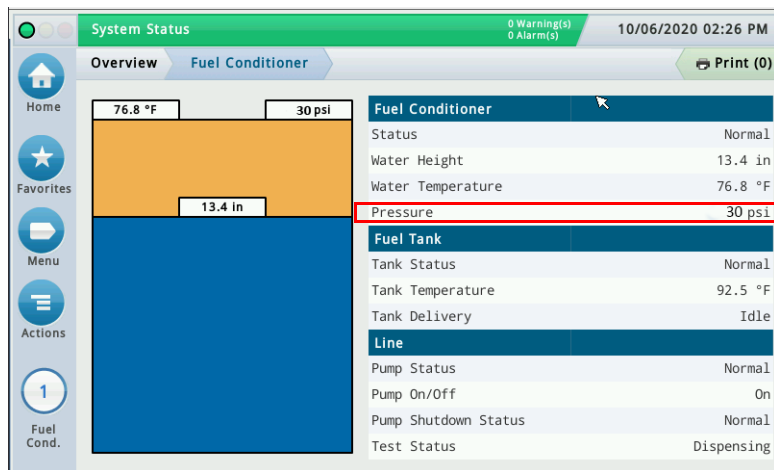

Figure 43. TLS-4xx HydrX Overview Screen
- Turn on the STP and Outlet Valve (Touch 0 and 1 on the IN OUT screen). Observe the Pressure reading in the Fuel Conditioner tab on the TLS-4xx HydrX Overview>Fuel Conditioner screen (see Figure 43).
- After running a complete Fill or New Filter Cycle, the clear tubing on the WID should be filled with fuel. Any presence of bubbles or air cavities indicate a leak in the WID. This can be checked at the end of the cycle after closing the pump adapter ball valve and locking out the STP. Visually inspect tubing by removing the (3) 1/4" bolts securing the WID to the guide tube and raising the WID so the tubing is visible. If any significant air leaks are present, contact technical support for further action.